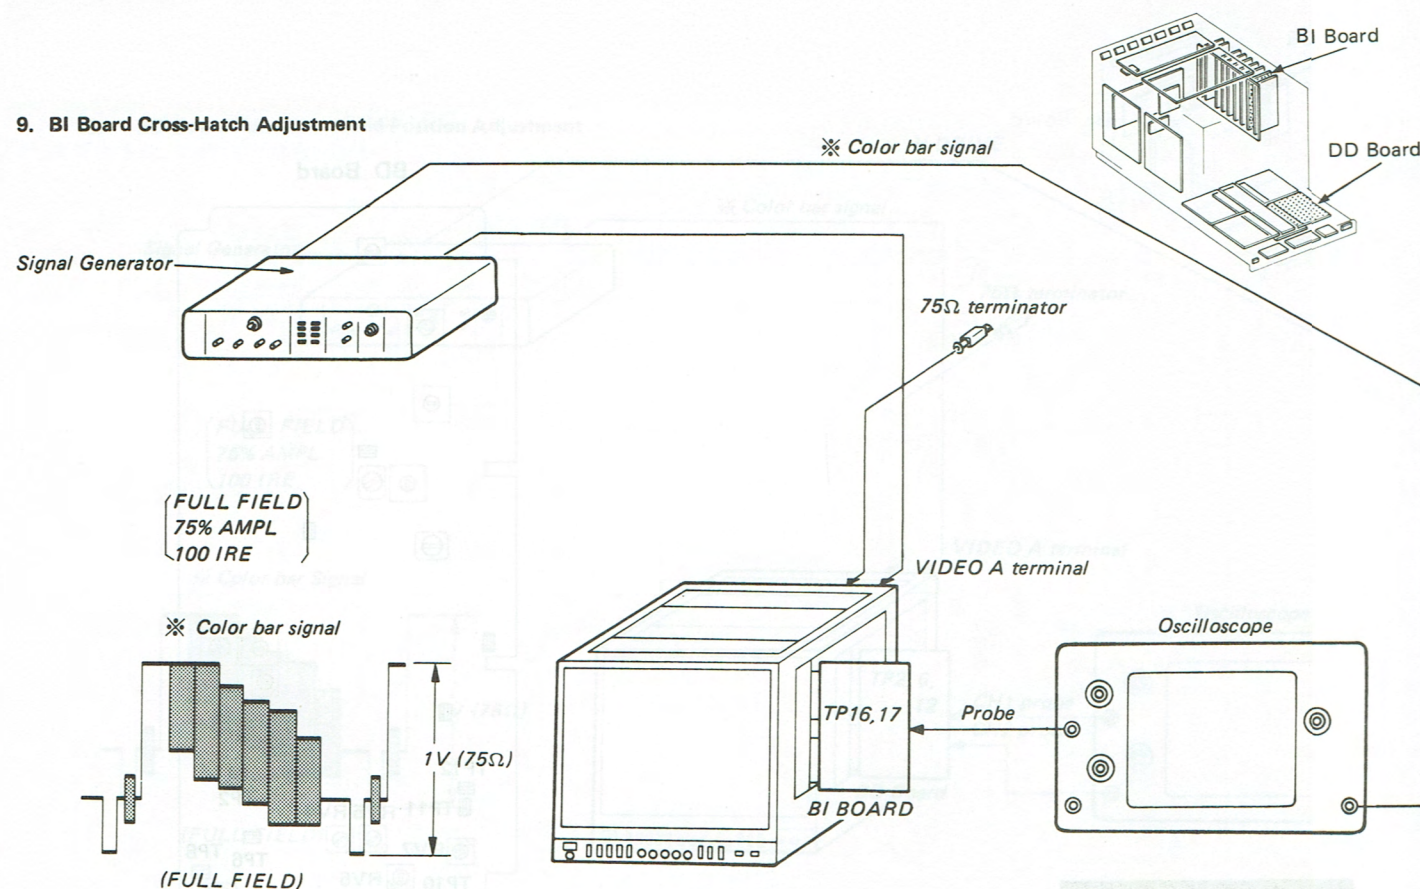

Fig. 9-1.
1. Connect as shown in Fig. 9-1.